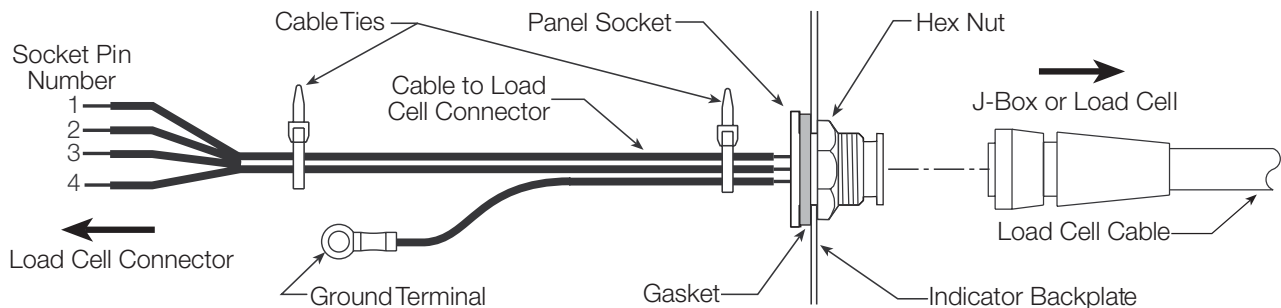

Figure 1. Quick Connector Wiring Diagram
7. Install gasket on the quick connector cable panel socket and install socket into indicator backplate. Install hex nut and tighten nut with a 7/8" wrench. Figure 1 shows the installation at the indicator backplate.